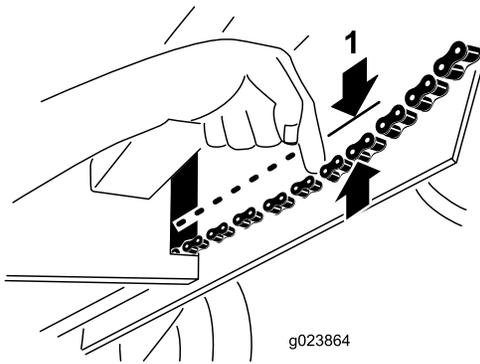

Figure 44
4. Pull down on the tine-drive chain near the opening in the frame with 9 kg (20 lb) of force (Figure 44).
4. Pull down on the chain near the opening in the frame with 9 kg (20 lb) of force (Figure 44).